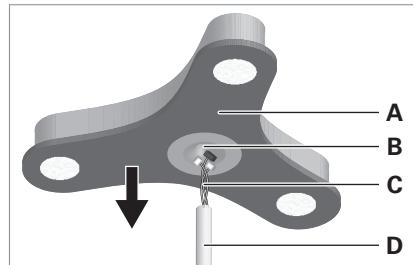

Fig. 6: Inserting the light head.
- Place the light head **A** on the column **D** while passing the cables **C** through the opening **B** in the light head, see Fig. 6.